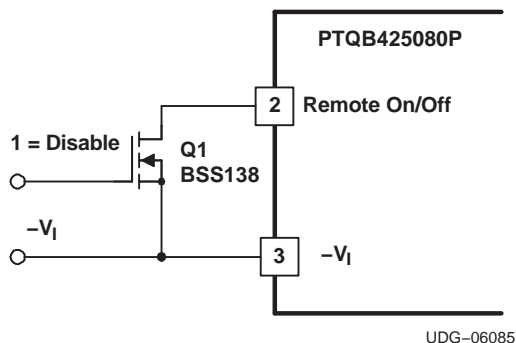

Figure 6. Recommended Control for Remote On/Off Input
**Turn-On:** With a valid input source voltage applied, the converter produces a regulated output voltage within 75 ms of the output being enabled. Figure 7 shows the output response of the PTQB425080P following the removal of the logic-low signal from the *Remote On/Off* (pin 2); see Figure 6. This corresponds to the drop in Q1  $V_{GS}$  in Figure 7. Although the rise-time of the output voltage is short (<10 ms), the indicated delay time varies depending upon the input voltage and the module's internal timing. The waveforms were measured with 48 VDC input voltage, and a 10-A resistive load.